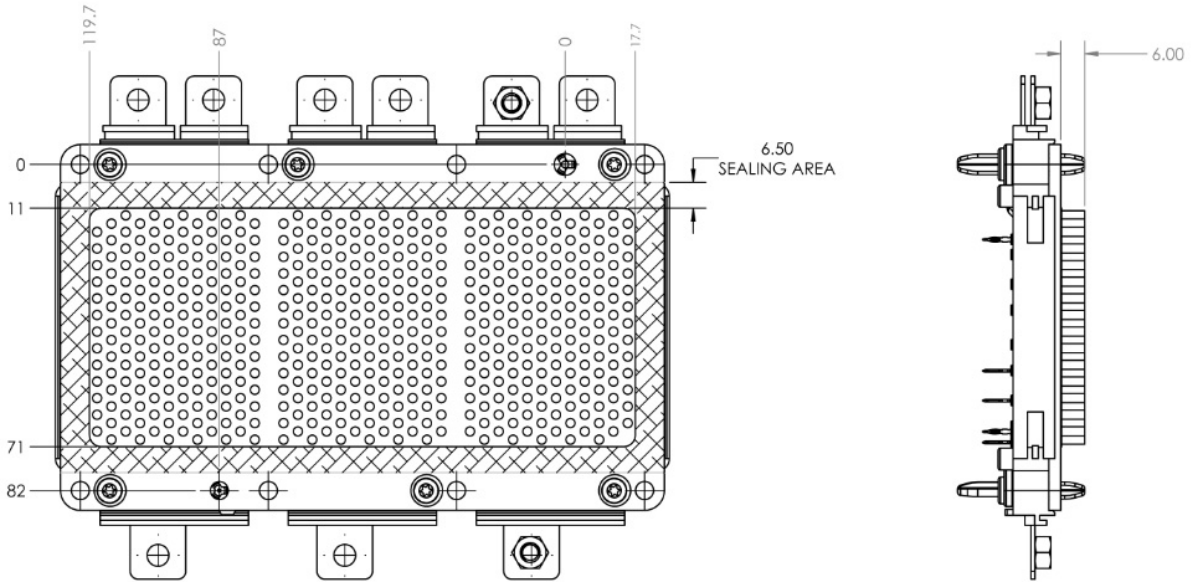

Figure 14. Bottom View of the Power Module Showing the Critical Sealing Area on the Pin-fin Baseplate
When mounting the module great care should be taken to not damage the Ni plating or structure of the pin-fins. Also avoid contamination, scratches or other damage to the area (Figure 14) of the base plate that will seal the module to the cooler.
- Roughness of the cooler sealing area as shown in Figure 14: $\leq RZ25$ (DIN EN ISO 1302)
A triple wiper seal with the specifications shown in Figure 14 with EPDM 50 material is recommended. The